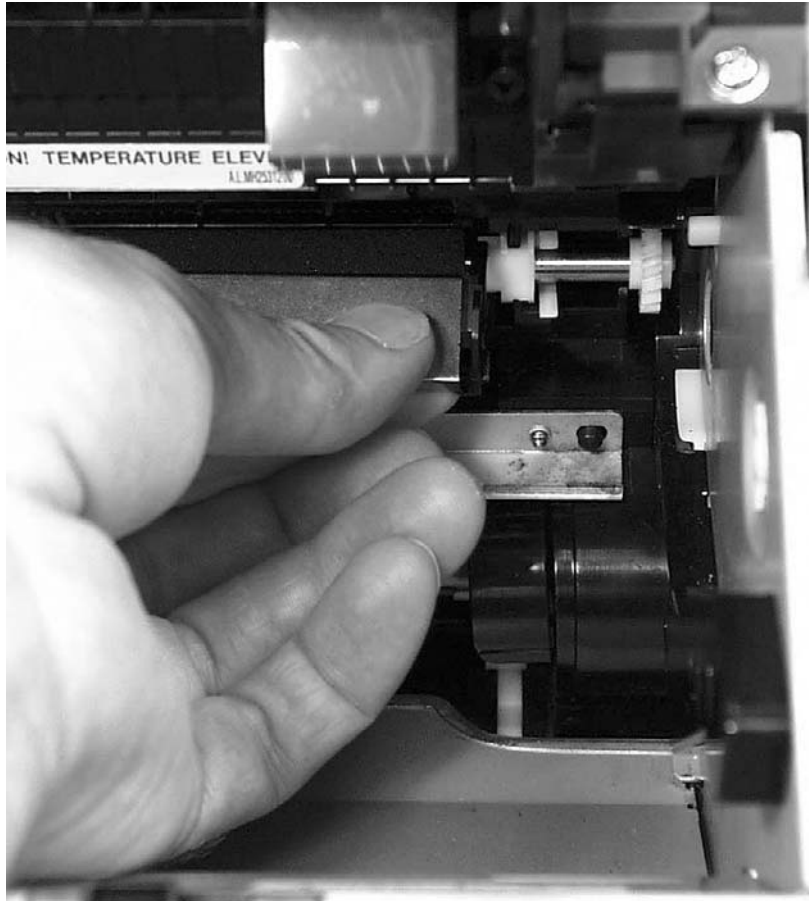

Figure 5-18. Removing the transfer roller (2 of 3)
3. The clamps on the paper guide fit over the bearings on the right and left ends of the transfer roller. Do not touch the sponge part of the transfer roller, but grasp the right end of the paper guide (callout 1, figure 5-18) and pull the clamp off the right bearing. Then slide it slightly to the right, and the left clamp will slide off the left bearing.